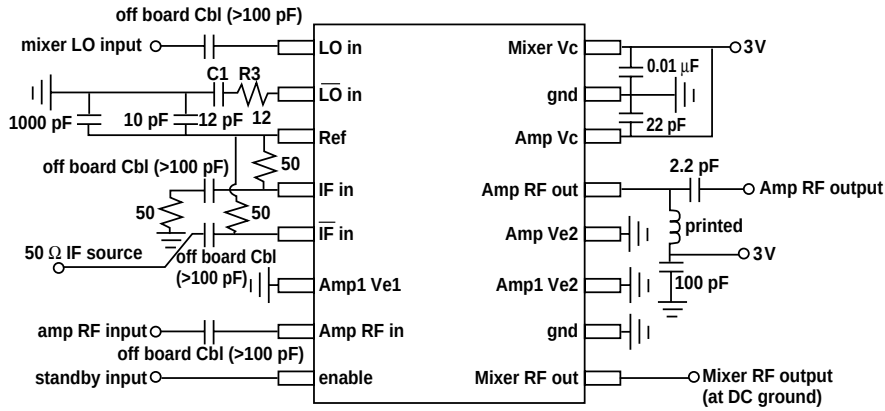

Figure 11. Test Board Configuration.
Circuit of Figure 11 with 1K Pull up Resistors for the IFs and LO and RF Ports Terminated in 50  $\Omega$ .
- [1] Circuit of Figure 11 with IF and RF Ports Terminated in 50  $\Omega$ .
[2] As above but LO RC combination in Figure 11 changed from 12  $\Omega$  and 12 pF to 0  $\Omega$  and 2.7 pF (recommended use for >1.75 GHz).
Circuit of Figure 11 with IF and LO Ports Terminated in 50  $\Omega$ .